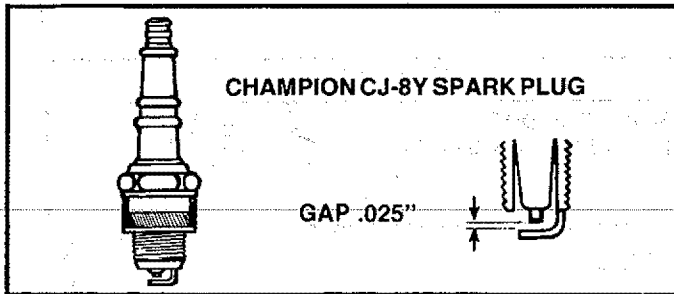

Figure 47
- d. Set the gap between the electrodes to .025 using a wire or flat gauge. Figure 47.